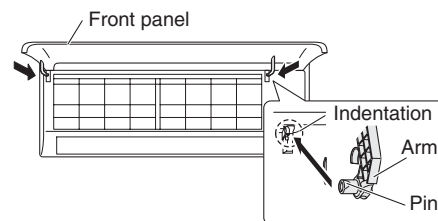

Fig. 3-17
- (1) While aligning the top edge of the grille with the frame, move the grille horizontally and insert the top and bottom into the frame.
- (2) Press the grille firmly with your hand to ensure no gap exists between the frame and grille.
- (3) Tighten the 6 screws. And fix the removed covers in place.
- (4) Grasp the sections near the front panel arms on both sides, and hold the front panel so that it is nearly horizontal. Push the arm shafts towards the outside so that they come into contact with the top of the indentations on the right and left sides of the air conditioner. Then push firmly until the arm shafts click into place. (Fig. 3-17)
- (5) Remount the lower flap.